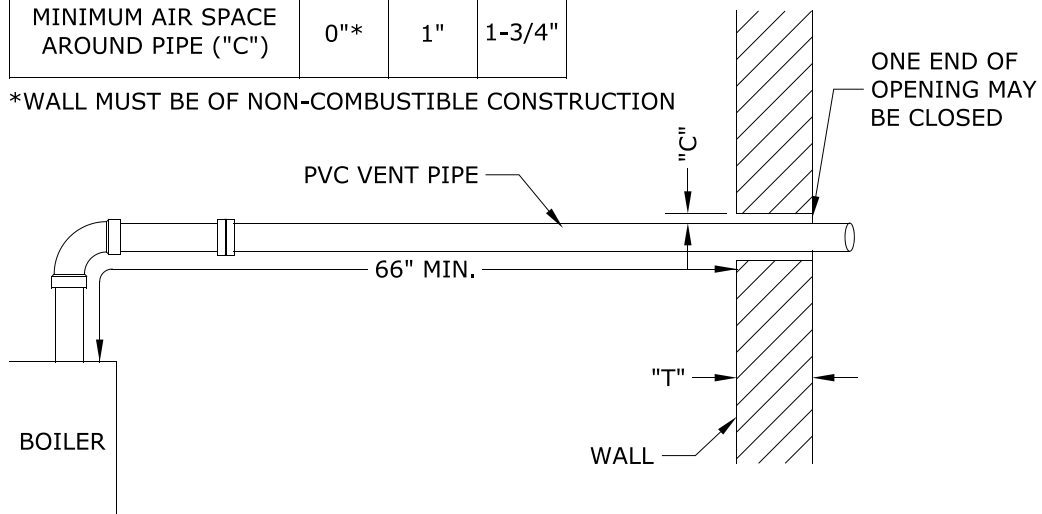

Figure 7.4: Wall Penetration Clearances for PVC Vent Pipe
- c. An airspace of at least that shown in Figure 7.4 is maintained around the OD of the vent.If any of these conditions cannot be met, use CPVC for the wall penetration.